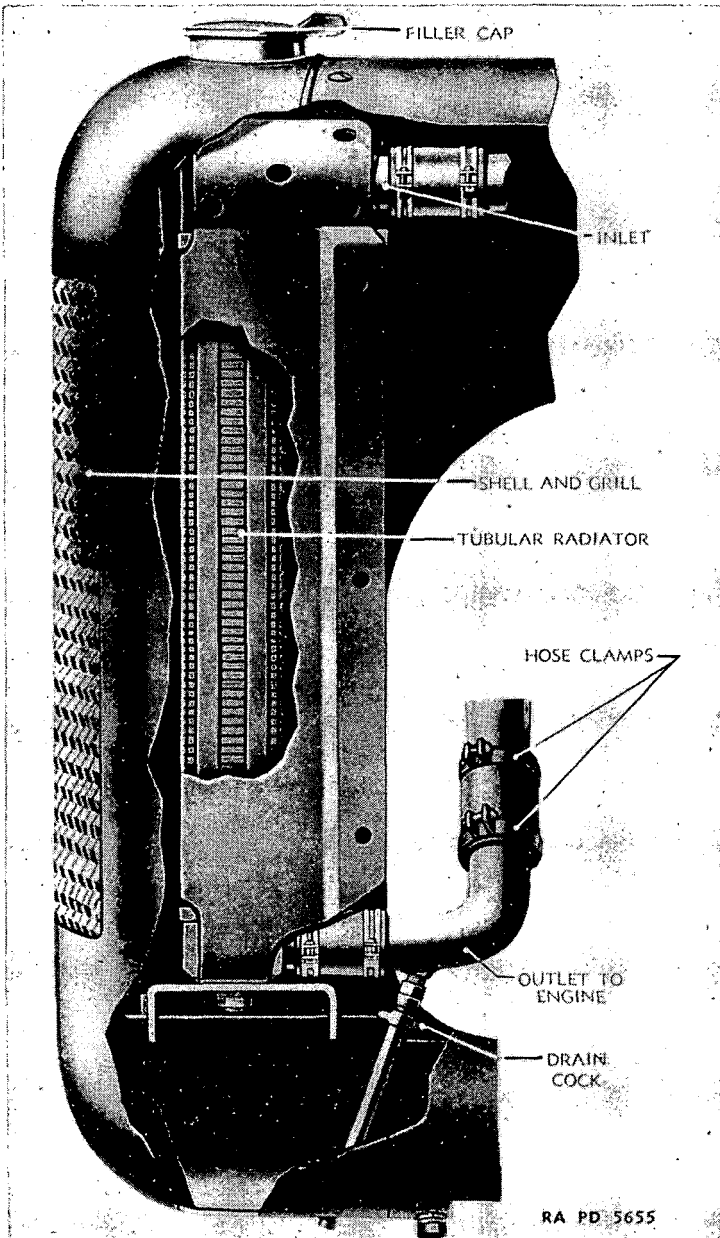

FIGURE 17.—Radiator—sectional view.
48. Description.—*a. Radiator.*—The water cooling system (fig. 17) incorporates a tubular type one-piece radiator, a radiator fan, and a centrifugal water pump. The capacity of the cooling system is two gallons. The system may be drained by opening the drain cock at the bottom of the water manifold on the left-hand side of the radiator and the drain cock on the left-hand side of the engine block in front of the carburetor.